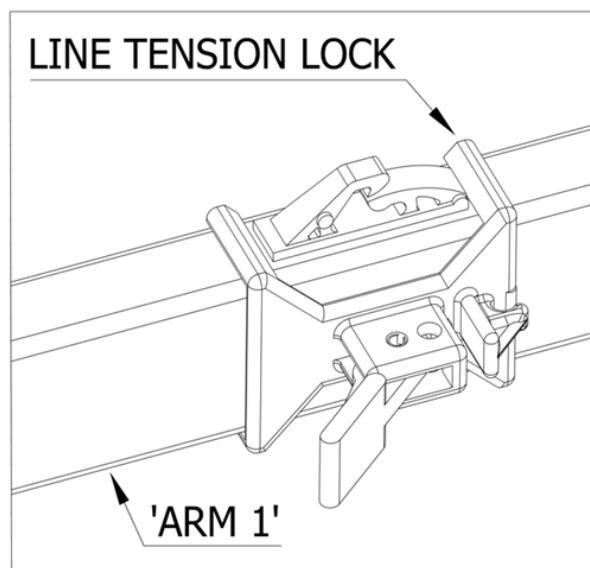

Fig 2. Line Tension Lock (L.T.L.)
- The arm with the Line Tension Lock (L.T.L.) will be known as 'Arm 1'. This arm is where **ALL** cording will either start or finish. (Fig. 2)